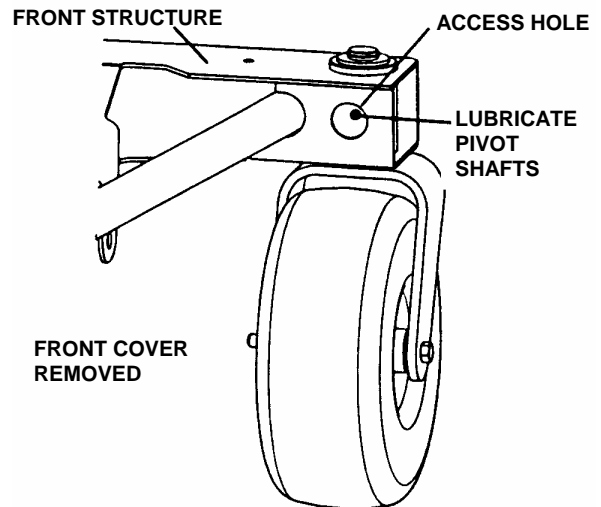

FIGURE 3.8
- a. The pivot shaft grease fitting can be accessed through a hole at the rear of the front structure. Lubricate pivot shaft with three shots of general purpose grease from grease gun. See Figure 3.8.